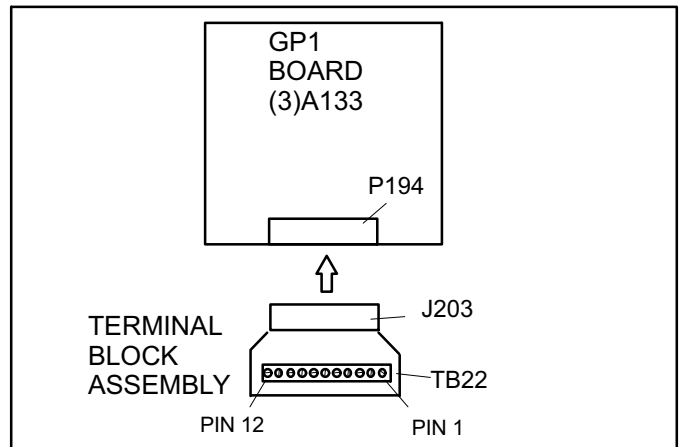

Figure 3. Connect GP1 Board to Terminal Block
4. Plug P194 connector on GP1 board into J203 on terminal block assembly. See figure 3.